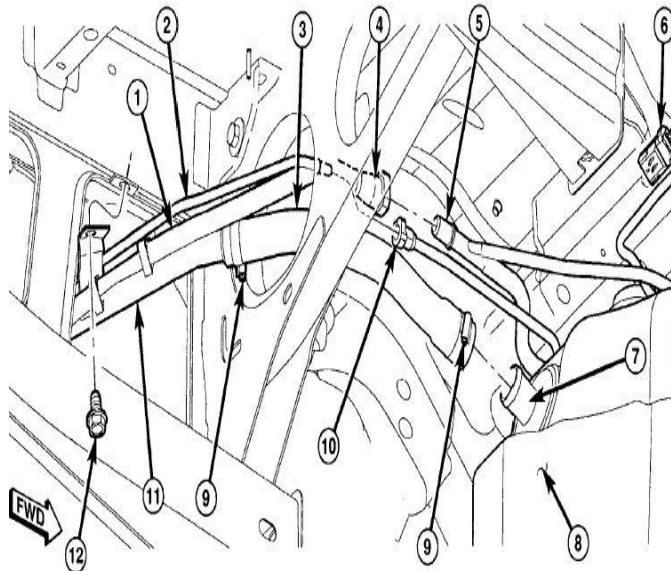

Fig. 11 Fuel Tube Routing
9. Connect rubber fill hose (3) to tank fitting (7) and tighten clamp (9) (Fig. 11).